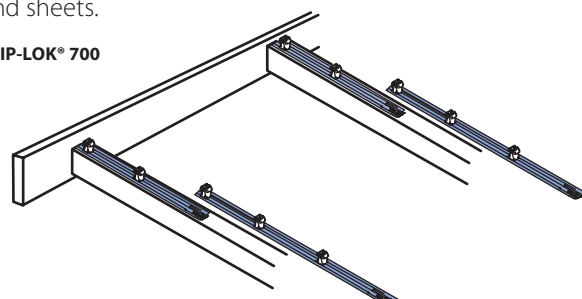

Figure 4
8. Position the first sheet so that the overhangs are of the desired amount (usually 50 mm) to the gutter. It is important to ensure this first sheet is placed squarely to adjacent edges (*Refer figure 4*).